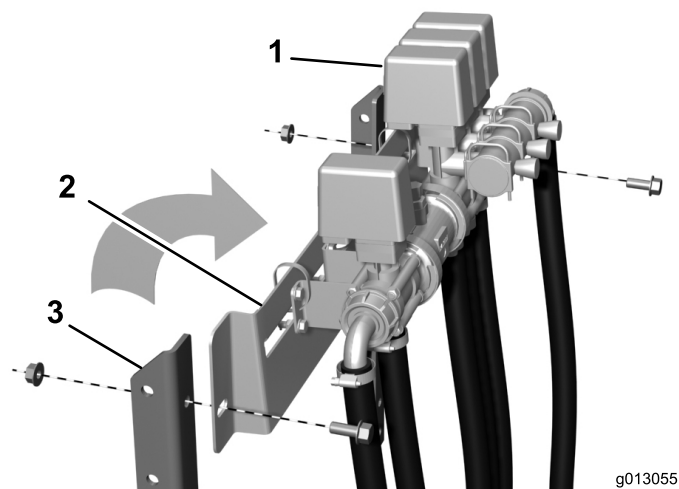

Figure 1
1. Remove the cable ties securing the valve mounting bracket to the sprayer frame uprights (Figure 1).
2. Remove the (2) flange head bolts and flange nuts loosely installed to the sprayer frame uprights (Figure 1).
3. Reposition the valve until the valve mounting bracket holes align with the sprayer frame upright holes as shown in Figure 1.
4. Secure the valve mounting bracket to the rear of the frame uprights with the flange head bolts and flange nuts previously removed (Figure 1).